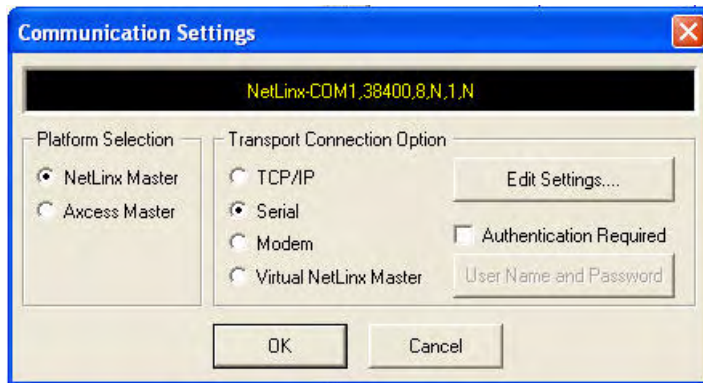

FIG. 37 Communications Settings dialog box
3. Click the **Communications Settings** button to open the *Communications Settings* dialog (FIG. 37).